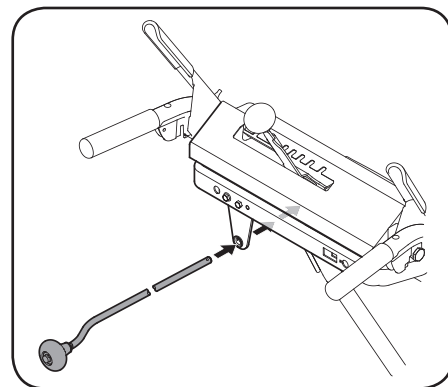

Figure 2-33
4. Guide the chute crank rod through the bracket located on the rear of the handle panel. See Figure 2-33.